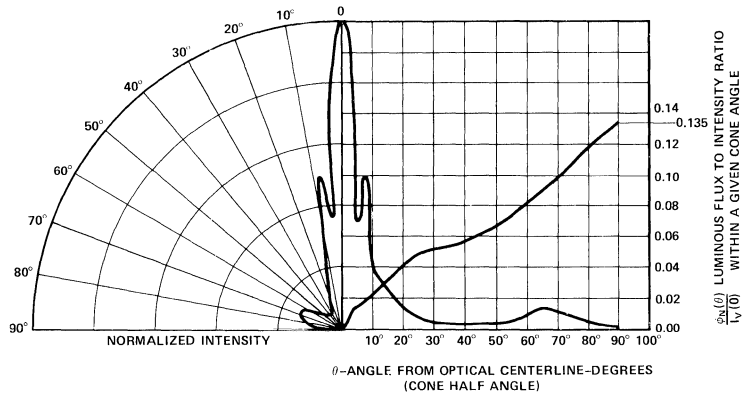

Figure 7. Relative Luminous Intensity vs. Angular Displacement
Where: φ_V(θ)/I_V(0) is obtained from Figure 7.